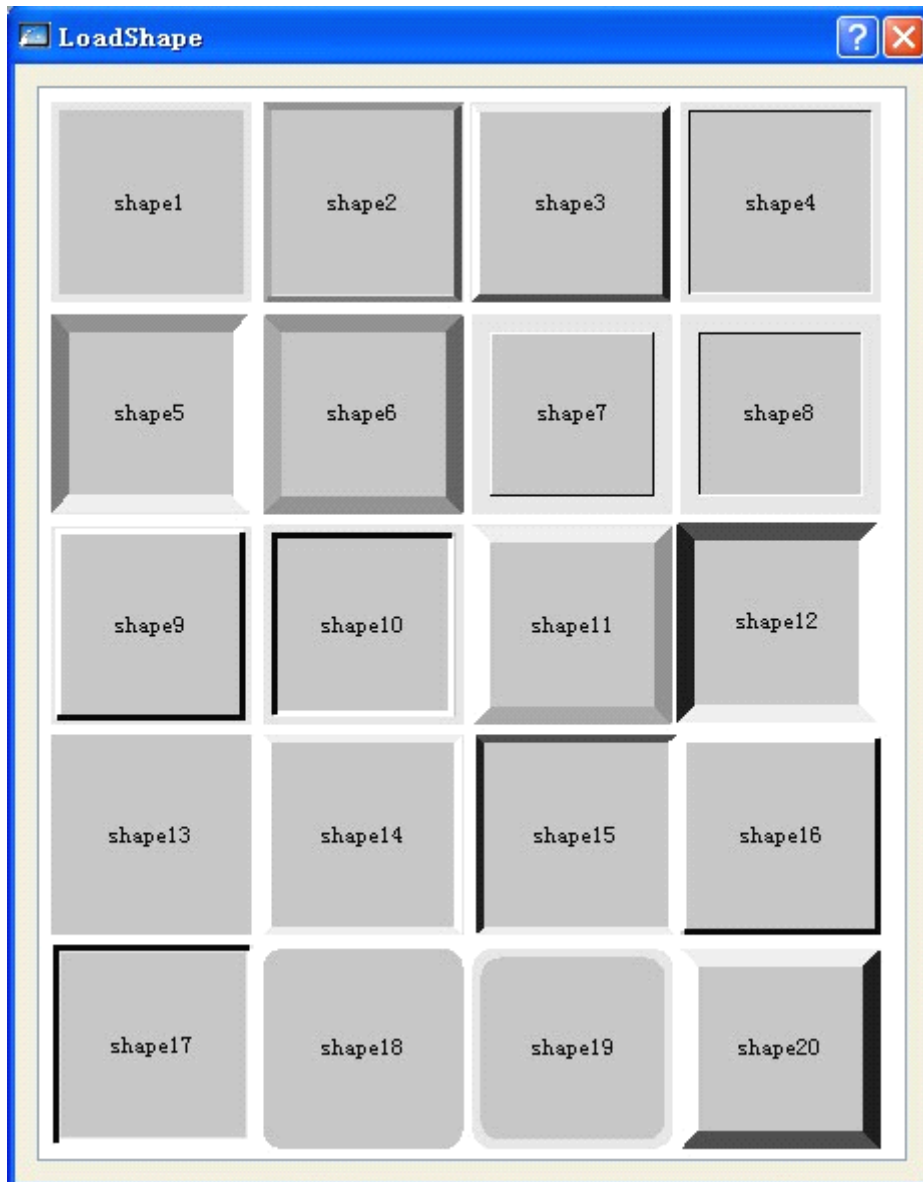

Figure 4-74: Shape pop-up dialog
- ◆ Shape: Click Shape button Shape, and then a Shape dialog will pop up, in this dialog, you can choose desired shape simply by clicking the shape. See Figure 4-74.